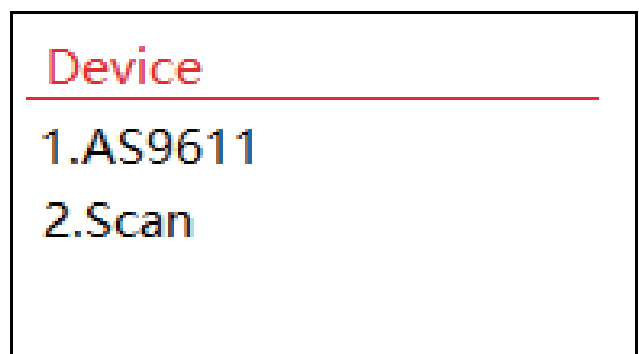

Fig. II.3.2
- 6) To match a new device, enter the device list to manually choose it. Refer to Fig. II.3.2. To search a new device, choose “Scan” and press the  button. To pair the device “ASxxxx”, choose it and press the  button.